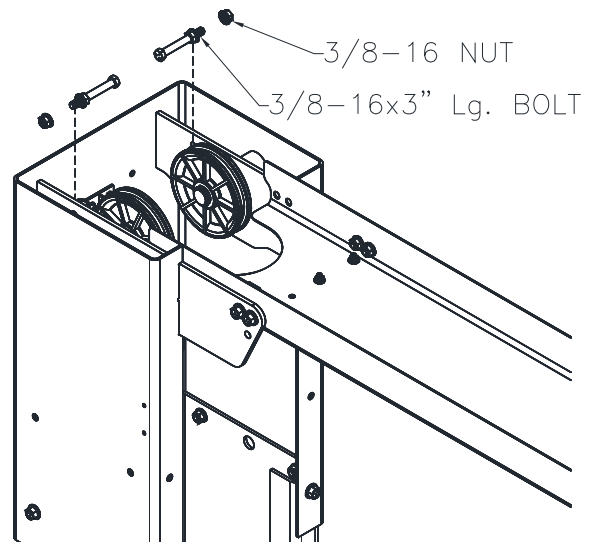

Fig. 10 – Column Ext. Cable Trapping
- 24) At the top of each column extension assemble a 3/8-16 x 3" lg bolt with (2) 3/8-16 flange nut at each sheave location, **Fig. 10.**